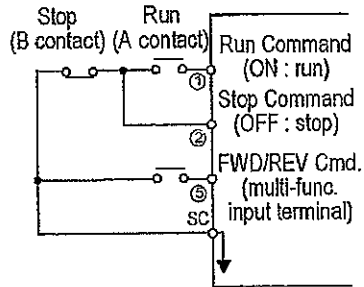

Fig. 37. 3-wire mode connection diagram
- Under 3-wire initialization mode (Sn-03= 8 or 10 or 12) , the multi-function input terminals ⑤~⑧ have setting "00", the inverter will be in the 3-wire mode operation. As shown in Fig. 37, the Forward/Reverse change mode is set at the terminal ⑤.